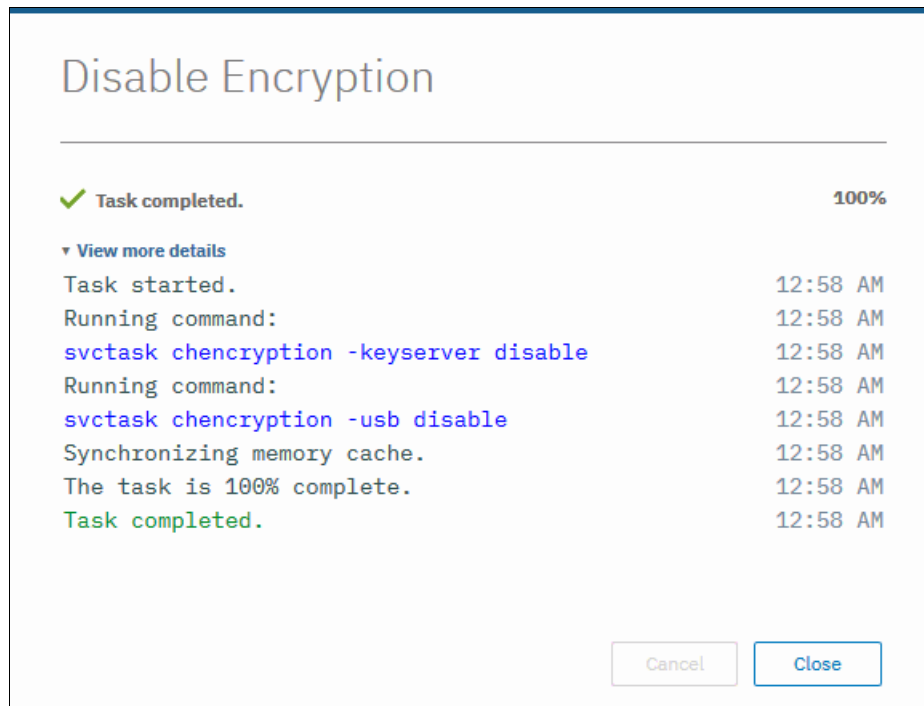

Figure 13-91 Encryption disabled
2. You receive a message confirming that encryption was disabled. Figure 13-91 shows the message when a key server is used.